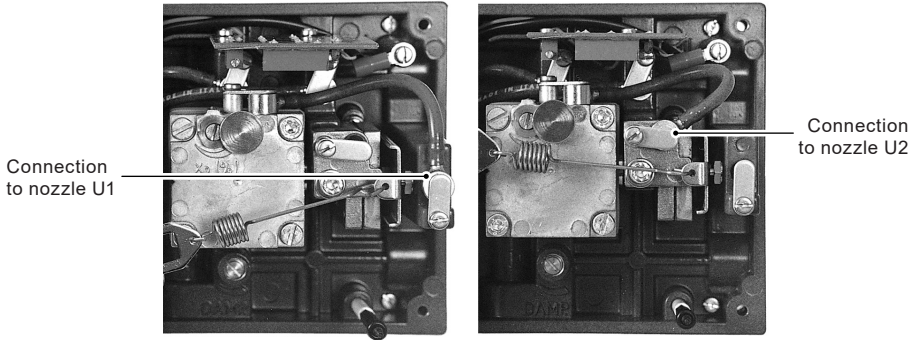

Fig. 7
- Connection to either U1 or U2 nozzles (see Figure 7) and